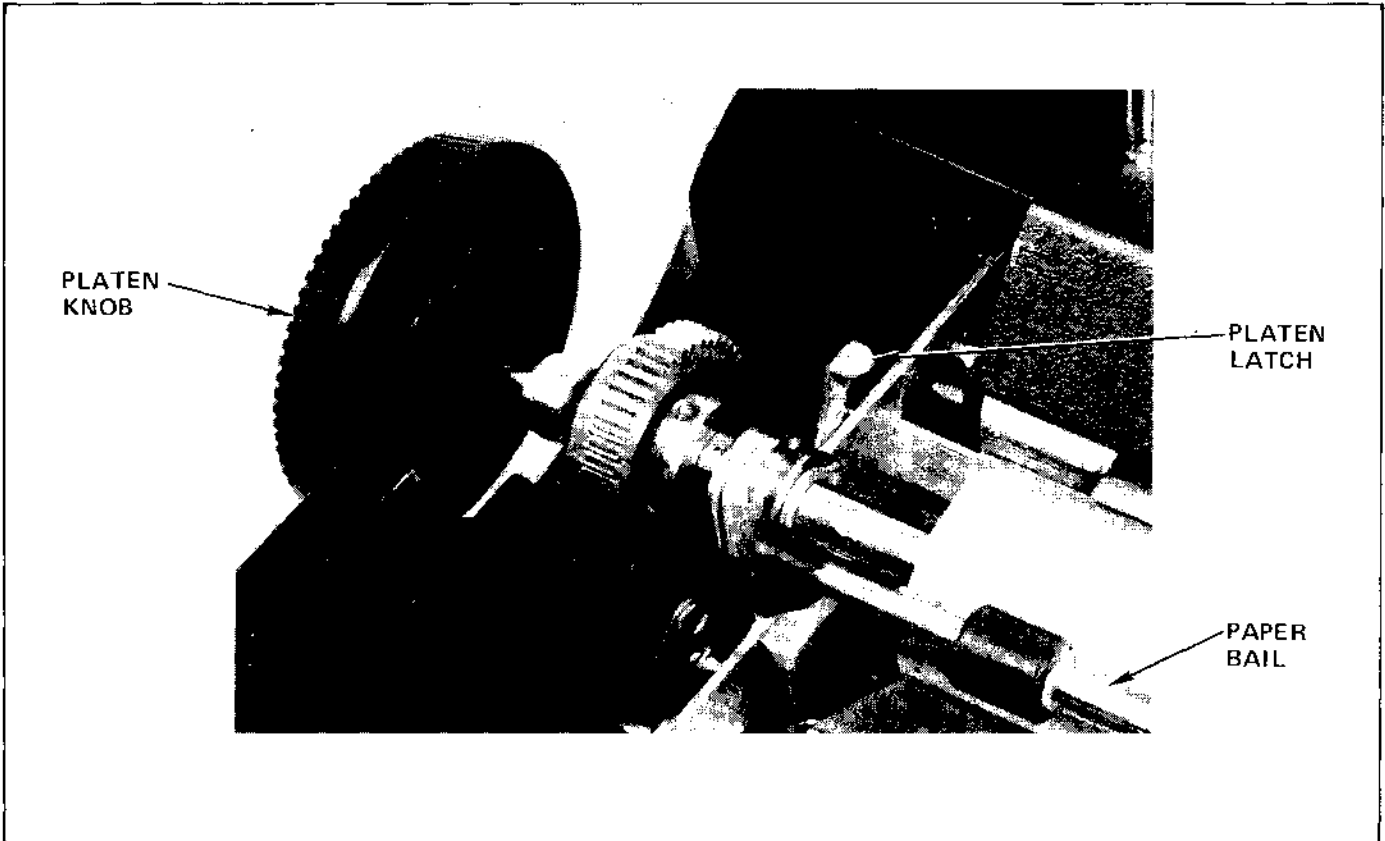

Figure 2-9. Platen Removal
- (1) Remove the forms tractor if one is used.
- (2) Remove the printer access cover and the plastic platen skirts.
- (3) Pull the paper bail (Figure 2-9) forward, away from the platen.
- (4) Refer to Figure 2-9. Grasp the platen knobs in both hands, and while pressing down on the platen latches with the thumbs, lift the platen straight up out of the printer.
- (5) Set the platen aside carefully where it will not be damaged and where it cannot roll off onto the floor.
- (1) Remove the printer access cover and the plastic platen skirts, to expose the printer side frames where the platen is to be installed.
- (2) Pull the paper bail forward.
- (3) Pick up the platen in both hands, holding the end with the platen variable knob in the right hand. (The platen variable knob can be pushed in toward the center of the platen slightly; the other knob cannot be moved.)
- (4) Refer to Figure 2-9. Position the platen over the printer so that both collars are aligned with the